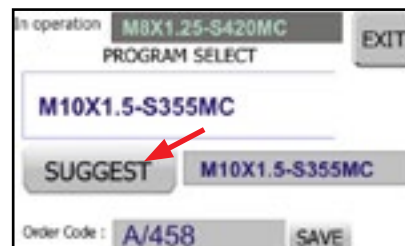

FIG. 6
- Press "Suggest" (Fig. 6). The name of the program that has been suggested will now appear on the box next to the "SUGGEST" button. At the same time it will also be displayed in the control panel of the threading unit.
- Other than suggesting a program it's also possible to write an order reference by typing it in the box "Order Code" (Fig. 6) and then confirming it with SAVE